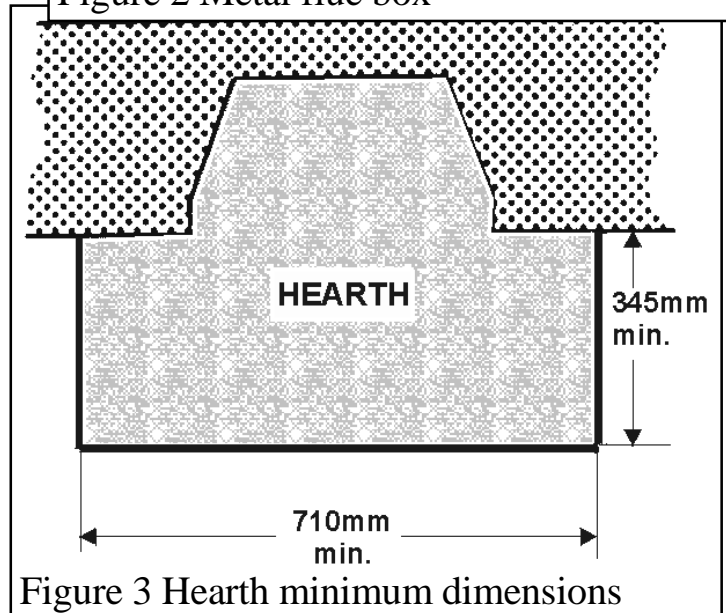

Figure 3 Hearth minimum dimensions
2.11 The appliance must be mounted behind a non-combustible hearth with minimum dimensions as figure 3. (n.b conglomerate marble hearths are considered as non-combustible). The appliance can be fitted to a purpose made proprietary class "O" 150°C surround. The hearth material must be at least 12mm thick. The periphery of the hearth (or fender) should be at least 50mm above floor level to discourage the placing of carpets or rugs over it.